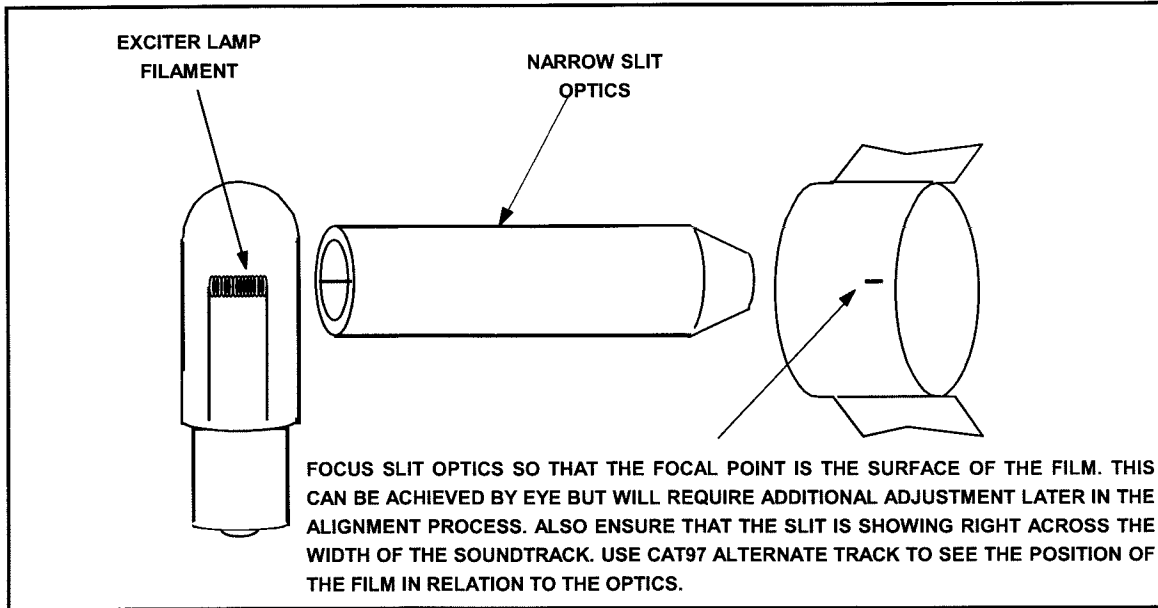

Figure 5: Preliminary mechanical alignment of exciter lamp and optics
5. Double check the cell alignment by running a 100% stereo alignment film, or the Dolby Cat 97 left/right stereo alignment film. The *amplitude* of the two 100% modulated wave forms should be identical. (*See Figure 5*). If one is greater than the other, whilst the modulated wave forms of the 50% level film are identical, there is a problem with the scanning beam. Either the slit is not uniformly illuminated along it's length, or the scanning beam is not in perfect alignment with the film guide roller and solar cell. Since most sound head optics cannot be moved in or out, it will be necessary to adjust the position of the film guide roller and realign the solar cell so that both the 50% and 100% modulated tones match from channel to channel. When this fine alignment is not done, loud sounds (above 50% modulation) will be distorted and will leak into the surround speakers.